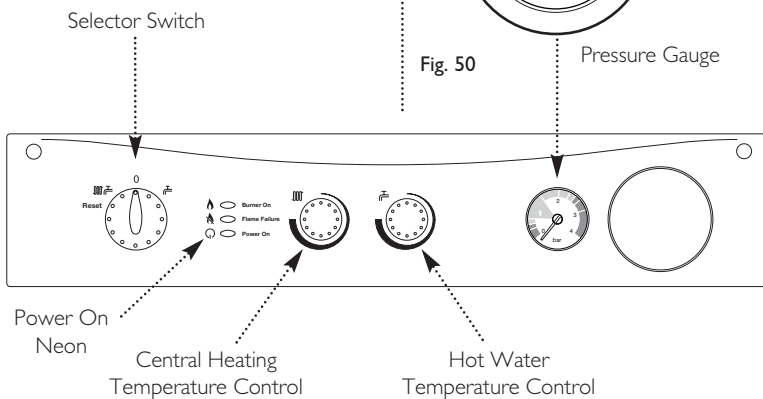

Fig. 51
2. Set the temperature controls to maximum and the selector switch to the Off position (Fig. 51).
5. Turn the selector switch fully anticlockwise against the spring pressure to the reset position and hold for 2 seconds to reset the boiler (Fig. 51).
6. Turn the selector switch to the Central Heating and Domestic Hot Water position (000000). The power On neon (ON) will illuminate (Fig. 51).